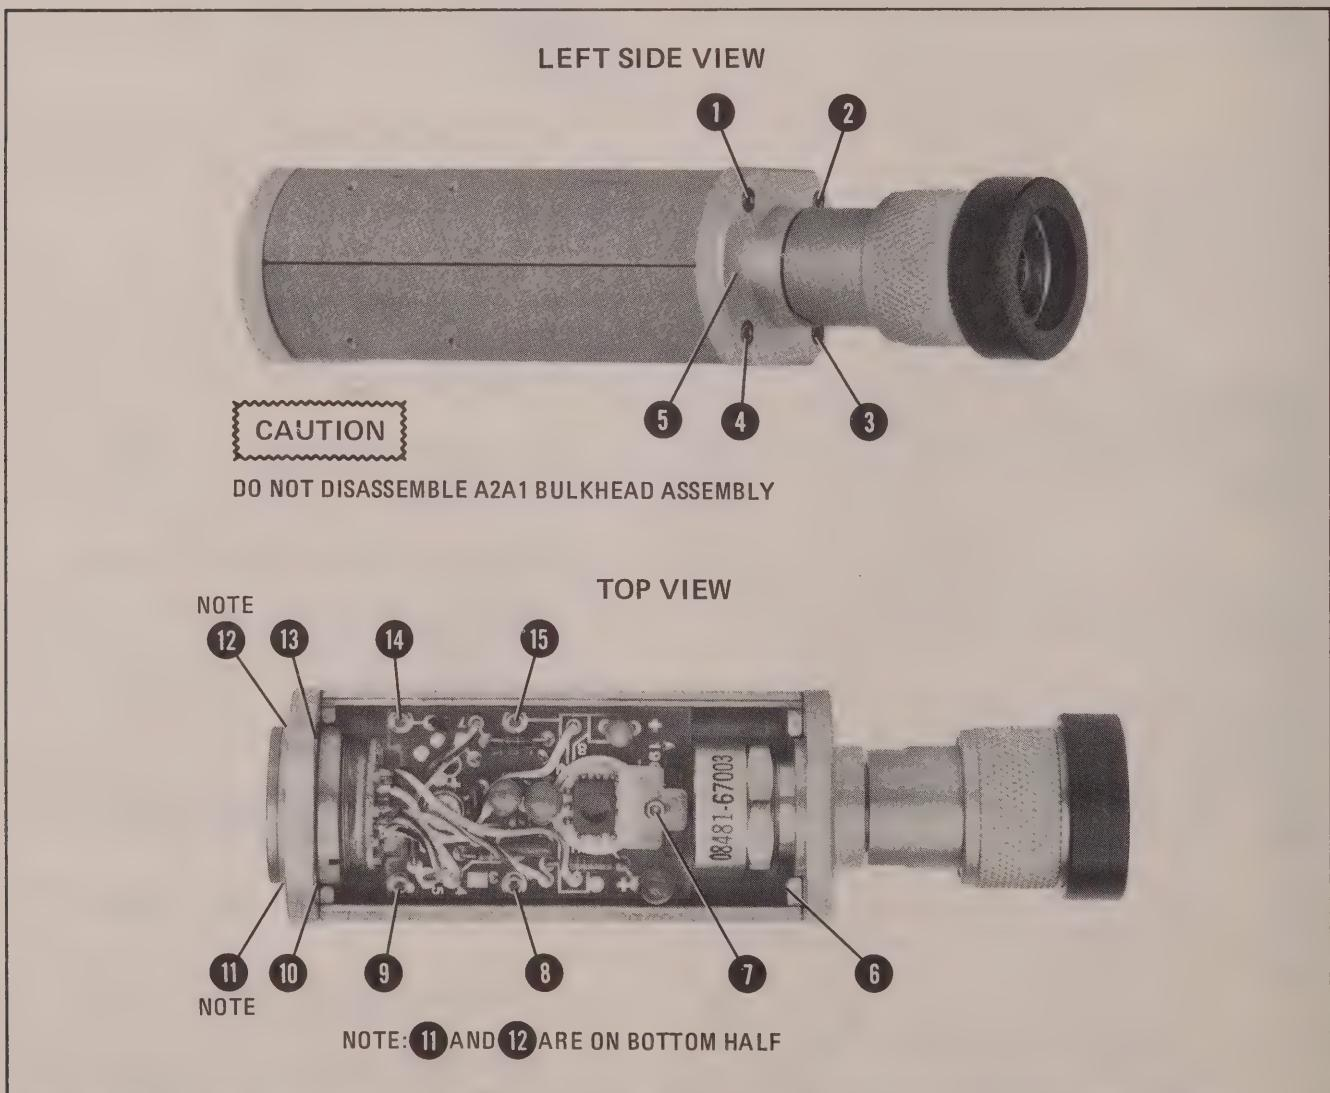

Figure 7. Sensor Hardware Locations
3. Position the sensor as shown in Figure 7. The small hole **5** should be on the left side of the RF input connector. Remove the allen cap screws **1**, **2**, **10**, and **13**. Loosen **11** and **12**. Remove the upper chassis from the sensor.
2. Cap screws **8**, **9**, **11**, **12**, **14**, and **15** must be inserted but not tightened. Refer to Figure 7.